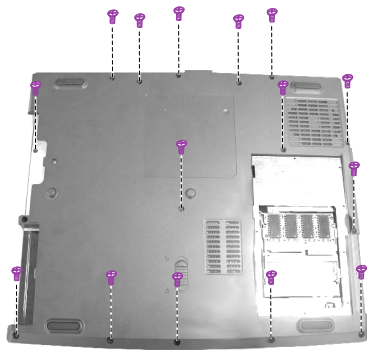

Figure 2-21 Remove the bottom
2. Remove fifteen screws on the bottom of the notebook. (Figure 2-21)